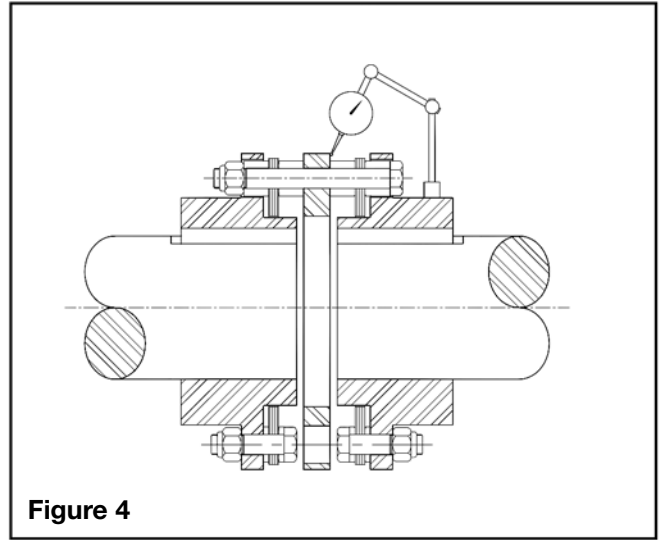

Figure 4
3. Attach a dial indicator to one of the hubs. Indicate a point on the nearest spacer face as close to the edge as possible. See Figure 4.